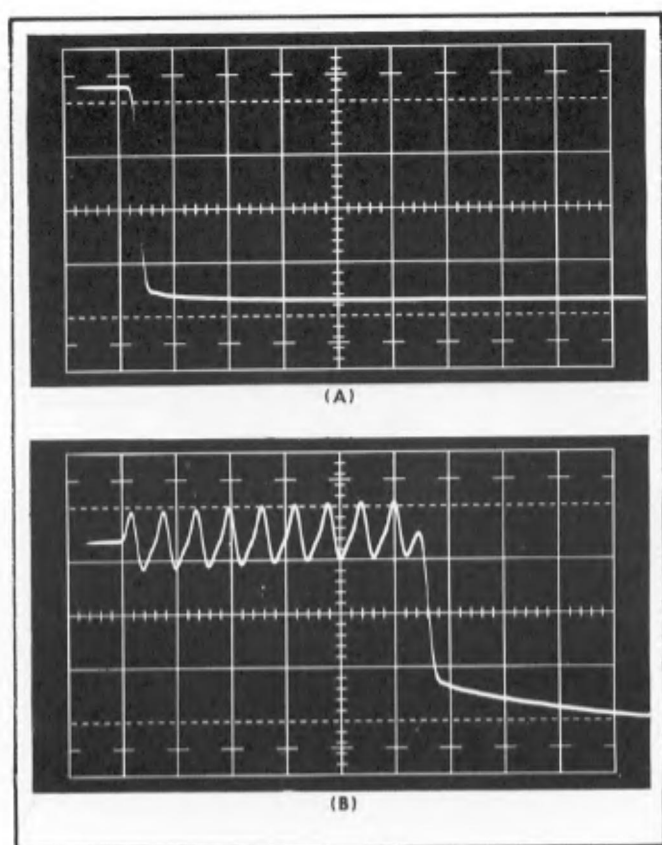

Fig. 7-7. Typical displays of correct Trigger Recognizer circuit operation. TRIG SENSITIVITY control (A) at 12 o'clock and (B) fully clockwise.
c. Check that the Test Oscilloscope display changes from no signal to a negative pulse display, Fig. 7-7, with 8 to 12 cycles preceding the negative step. If the negative step first appears with no cycles preceding, at the center (12 o'clock) position of the TRIG SENSITIVITY control, the Trigger Recognizer circuit is operating correctly and requires no adjustment. Proceed to part e.